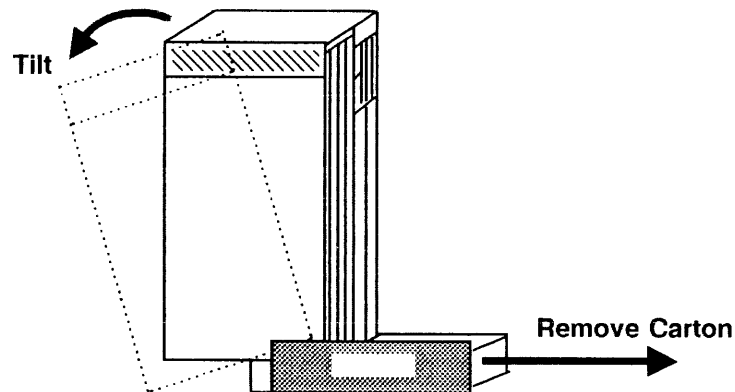

Figure 6. Removing the Carton Base
5. Tilt the front of the processor downward until the bottom edge touches the floor (Figure 6).
6. Tilt the processor a bit more and, while holding the processor at that angle, carefully pull the carton base out from under the processor (Figure 6).